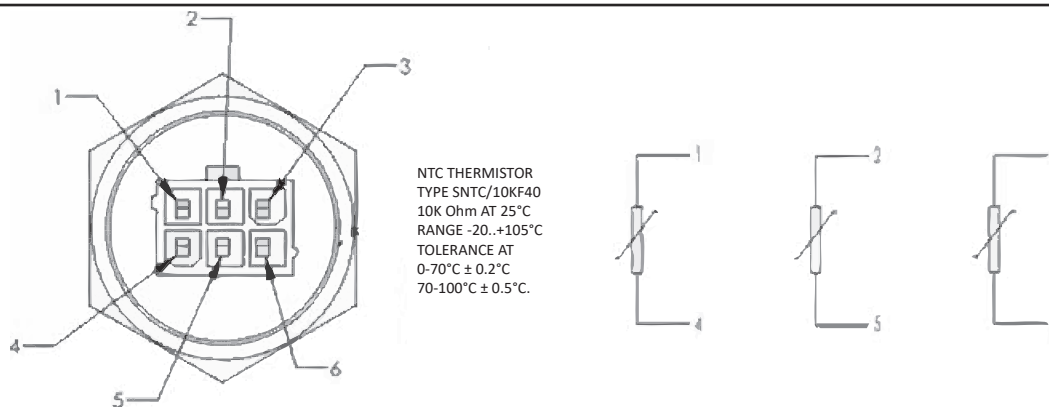

Figure 12. Main Temperature Probe
2. Check probe's resistance. For Main Temp Probe, you will need to check each NTC. See pin layout in **Figure 12**.
4. Check resistance between the two inside pins (black wires/Pins 1 & 4) of the plug end from the Temperatures Probe. See **Figure 12**.